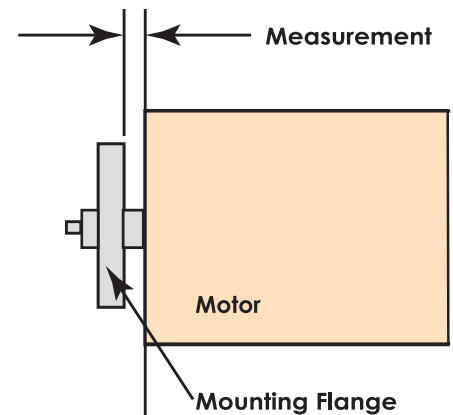
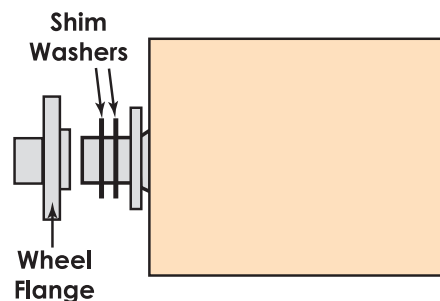

Fig. 1 Measure Stick-Out
Fig. 3 Add Shim Washers As Needed
3. Remove grinding wheel and measure amount of stick-out from motor mounting plate. Jot this down for reference in reassembling. (see **Fig. 1**)
9. **Fig. 3.** Install flange on motor shaft, making sure spacer is still in position. With flange seated firmly against spacer, measure amount of stick out and add shim washers, if necessary, to obtain the same measurement you noted in step 3. **Fig. 1.**